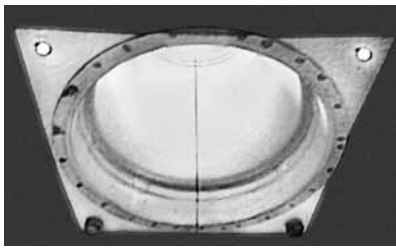

Figure 19
1. Remove the 2 top front screws and loosen the 2 top rear screws of the **rear solid cover plate** (Figures 19 and 20).